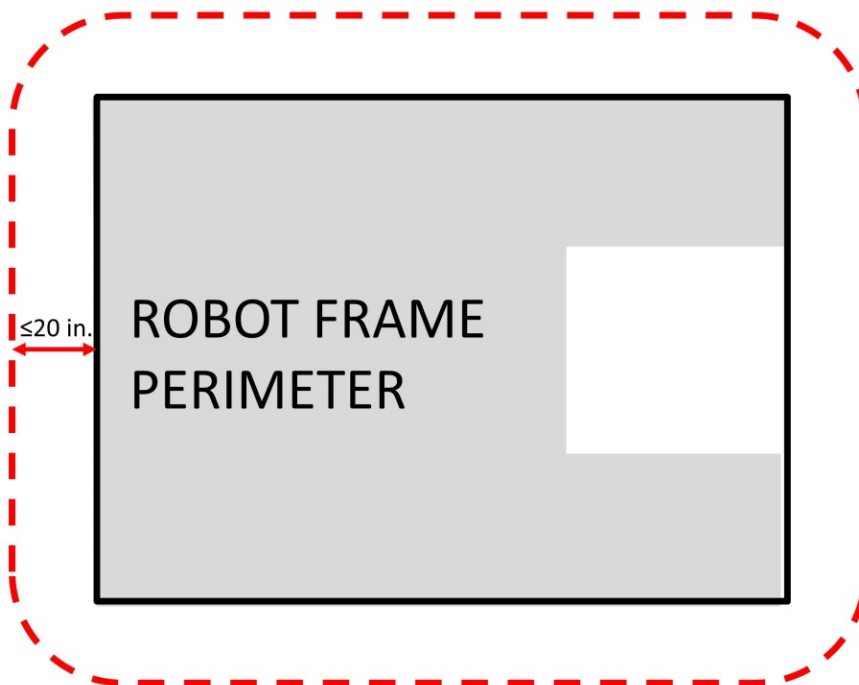

Figure 4-2: FRAME PERIMETER Extension
- B. a ROBOT may not extend more than 20 in. beyond the FRAME PERIMETER (see Figure 4-2 for examples) (see G24), and